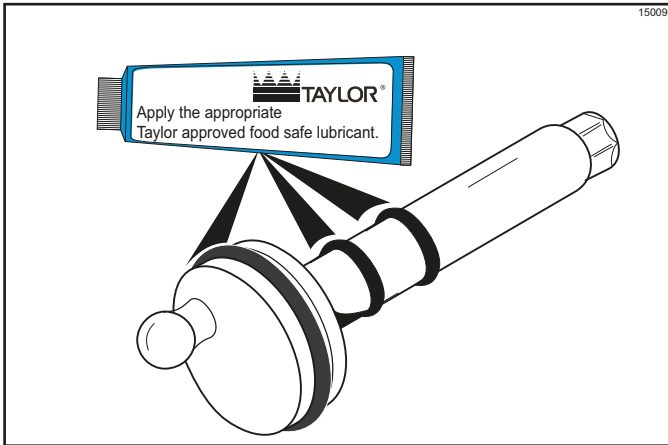

Figure 6-31
13. Slide the large black O-ring and the two smaller black O-rings into the grooves on the driveshaft. Thoroughly lubricate the O-rings and shaft. **Do not** lubricate the hex end of the shaft. (See Figure 6-31.)